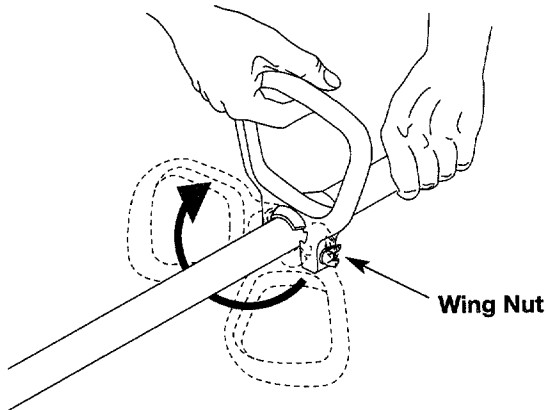

Figure 1
1. Locate the wing nut on the D-Handle. Untighten the wing nut enough to loosen the D-Handle. See Figure 1.
2. Rotate the D-Handle to the upright position on the front side of the shaft housing. See Figure 1.